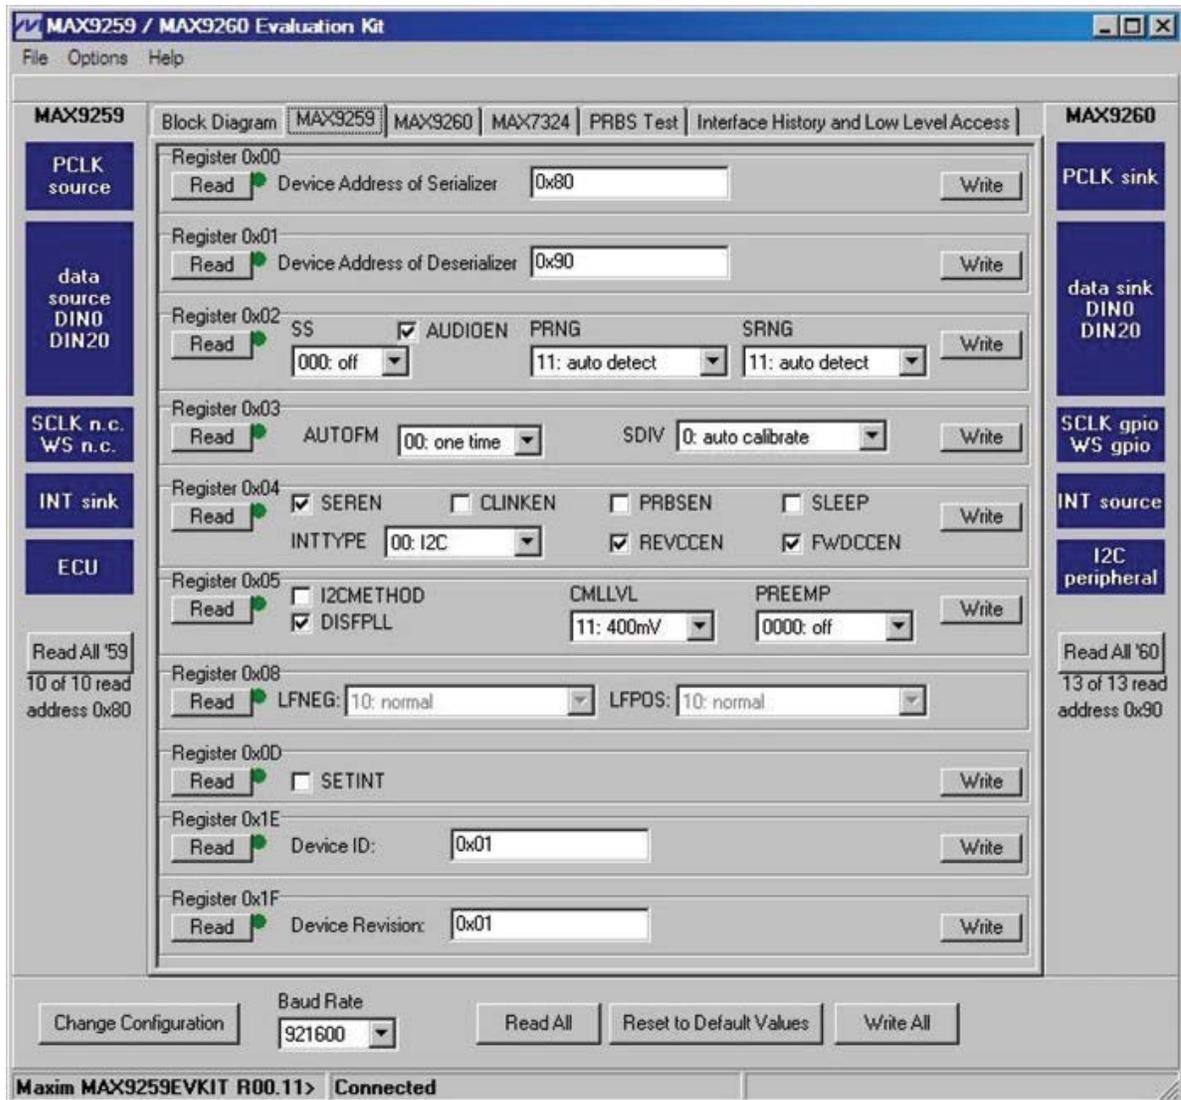
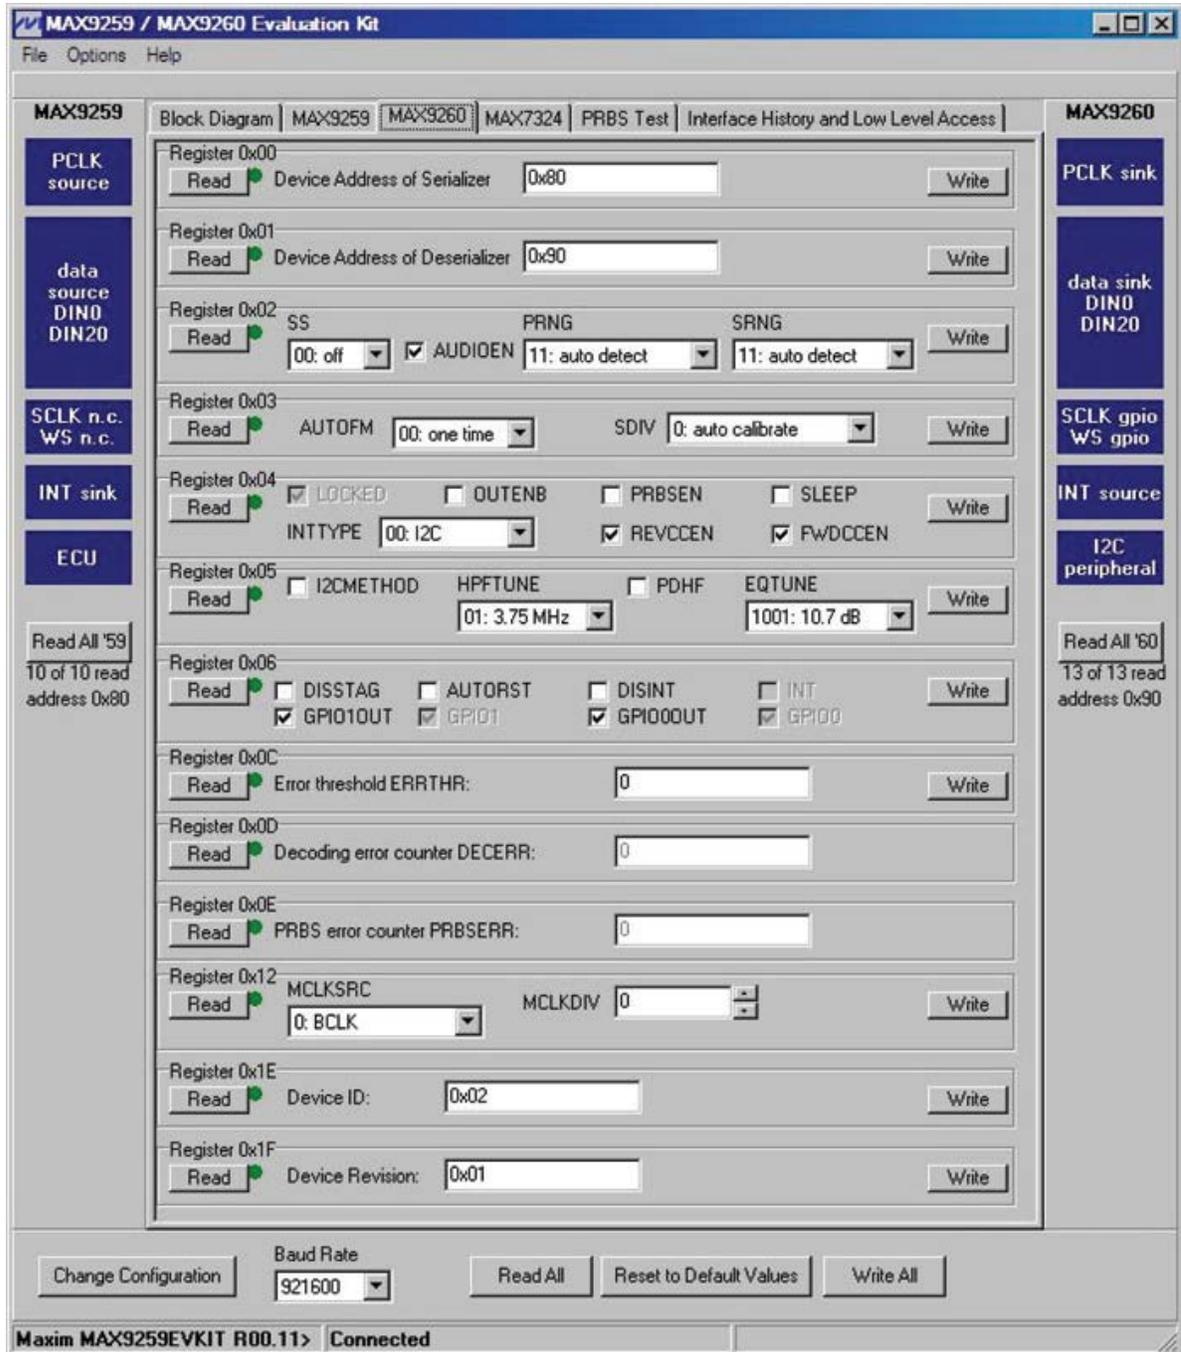

Figure 3. MAX9259/MAX9260 EV kits software main window (MAX9259 tab).
Figure 4. MAX9259/MAX9260 EV kits software main window (MAX9260 tab).
11. The **Read All** button reads the entire MAX9259 and MAX9260 device registers. The **Write All** button writes all MAX9259 and MAX9260 device registers with the values shown **Figure 3** and **Figure 4**.
12. From the MAX9260 tab sheet (Figure 4), read the 8-bit error count register (0x0E) to clear the errors before the PRBS test.